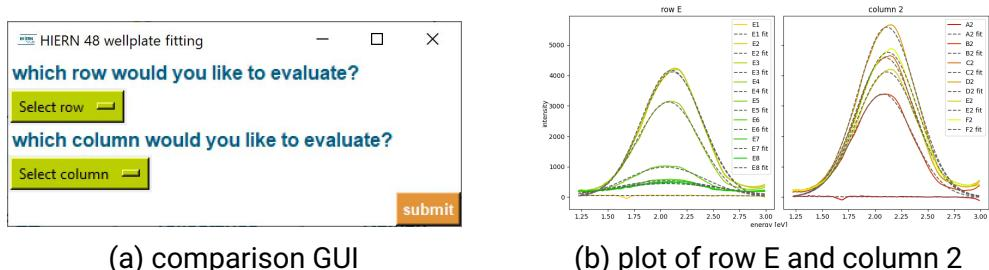

Figure 5: comparison button
The PLE program also consists of a similar two step user interface as the Tecan PL program. You choose the wells of the 48 plate and afterwards provide one measurement data file (.txt) and a result folder. The measurement data file should have the following structure: first column x-data in units of wavelength (e.g. header: Wavel.) , one additional tabulator separated column for each selected well (e.g. header: A1, ...) in the right order. Afterwards the data are corrected with the Jacobian correction (eq. (4)) as for the PL spectra. The fitting is performed using the same Gaussian function (eq. (2)) as for PL. Those plots can be displayed by the plot button. The comparison button offers the same features as for the PL methode (fig. 5).